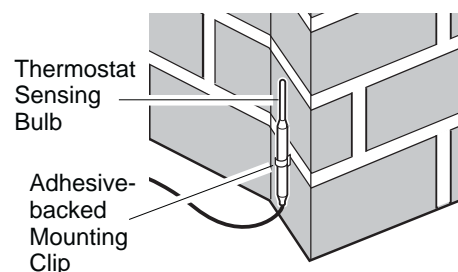
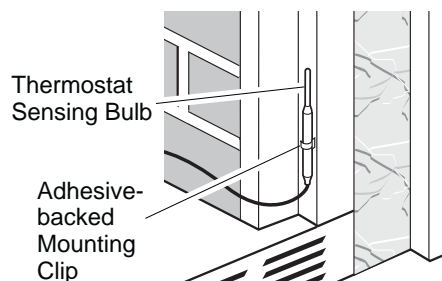
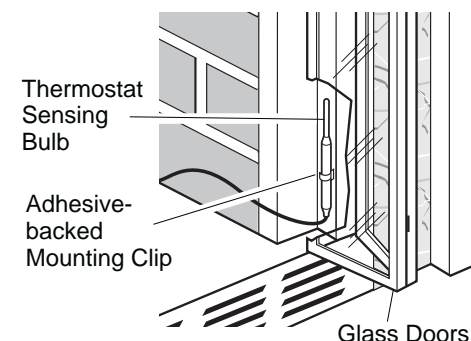

Figure 31 - Locating Thermostat Sensing Bulb on Masonry Fireplace
Figure 32 - Locating Thermostat Sensing Bulb on Factory-built Metal Fireplace
Figure 33 - Installing Thermostat Sensing Bulb behind Glass Doors
4. The thermostat sensing bulb may be located to the lower right front side of fireplace. Determine location of sensing bulb, but do not mount sensing bulb until step 5. If you have a masonry fireplace, see Figure 31 for location. If you have a factory-built metal fireplace, see Figure 32 for location. If your fireplace has glass doors, position sensing bulb directly behind door gap on right bottom side (see Figure 33).